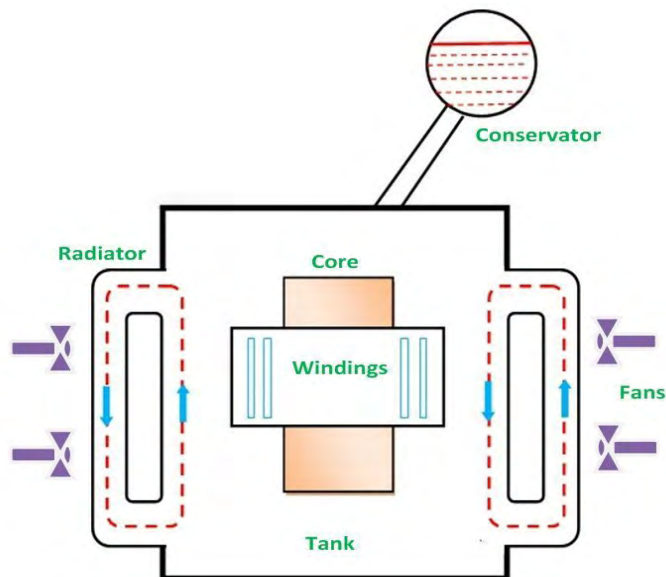

Figure 2.7: Oil Natural Air Forced method of cooling
2. **Oil Natural Air Forced (ONAF):** The ONAF method works in the same way as the ONAN. The difference here is that the former has fans and blowers mounted, which blow air at high velocity on the radiator, thus cooling the oil in the radiator and tower, at a very fast rate. Since the cooling rate is fast and more efficient, this method is used for cooling transformers of up to 60 MVA in capacity. It is, however, more expensive than the ONAN because of the fan and blower attached. Figure 2.7 shows a typical ONAF cooling system.